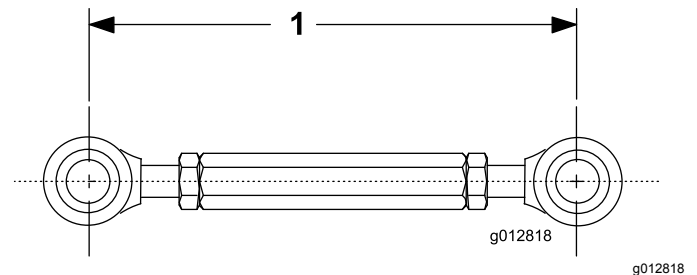

Figure 4
- Adjust the length of the threaded link to 19 cm (7-1/2 inches) and tighten the jam nuts (Figure 4).